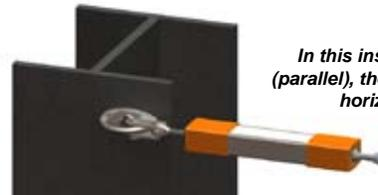

Fig. 1a
**WARNING: When the D-bolts are being installed parallel or alongside the horizontal lifeline (see Fig. 1a), the D-bolts must be mounted horizontally. D-bolts being installed perpendicular to the lifeline (see Fig. 1b) may be mounted at any angle.**